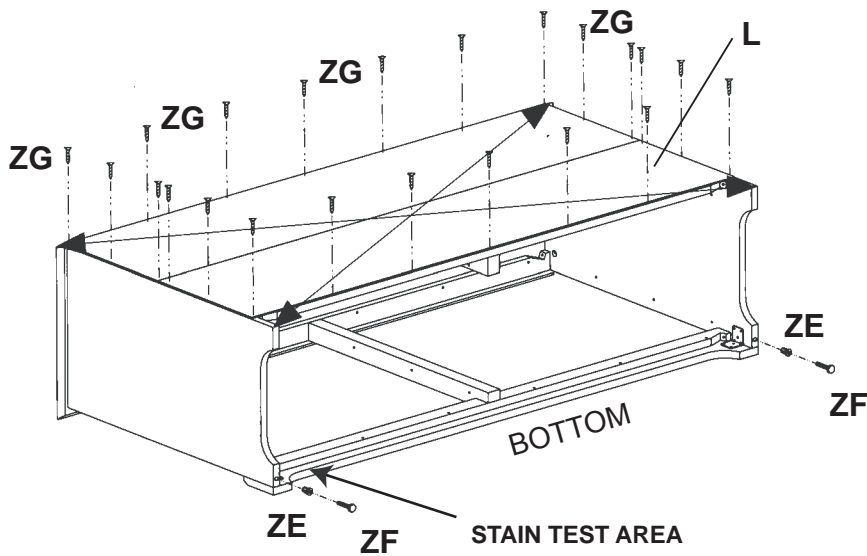

Fig. 6
- b. Alder pieces—apply stain to the back of the base. See Figure 6.
6. Lay the dresser face-down on a clean protected surface and measure from top left to bottom right and from top right to bottom left. If the unit is square, the measurements will be equal. If one is longer, tap the bottom of a side panel until the measurements are equal. Lay the Backs (L) on the unit so that the two pieces meet and can be fastened to the Top, the Sides, and Lower sleeper. Insert #6 x 5/8" Philtruss Antique Brass Screws (ZG) through the predrilled holes in the back. See Figure 6. Completely thread a Nylon Insert (ZE) on each Adjustable Glide (ZF) and firmly tap all the way into the hole in bottom of both Side Panels. Turn the dresser right-side up and place it at its final destination. Rotate the adjustable glides to level the unit.